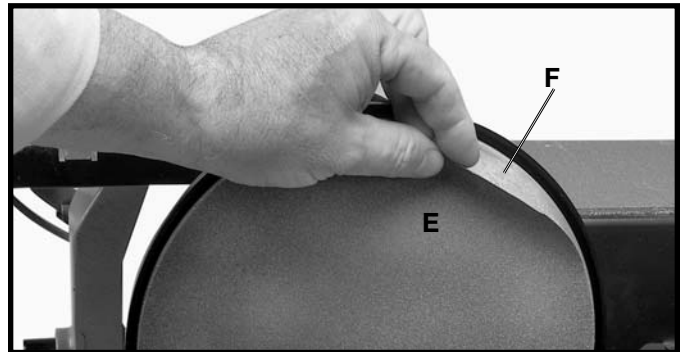

Fig. 46
4. Peel off old disc (E) as shown in Fig. 46.
5. Make sure the disc plate (F) Fig. 46, is clean and peel backing from new sanding disc. Press the new sanding disc firmly into position on disc plate (F) and replace lower cover and table assembly which were removed in **STEPS 2** and **3**.